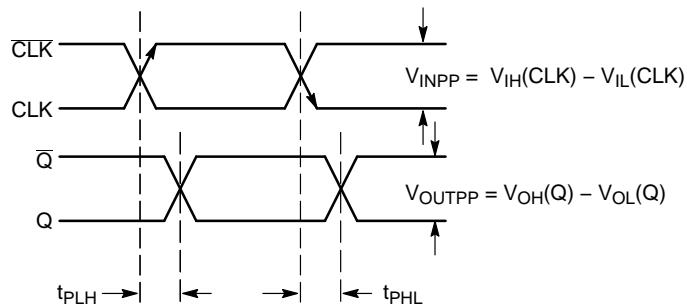

Figure 9. AC Reference Measurement
24. See Figure 9.  $t_{SKEW} = |t_{PLH} - t_{PHL}|$  for a nominal 50% Differential Clock Input Waveform.